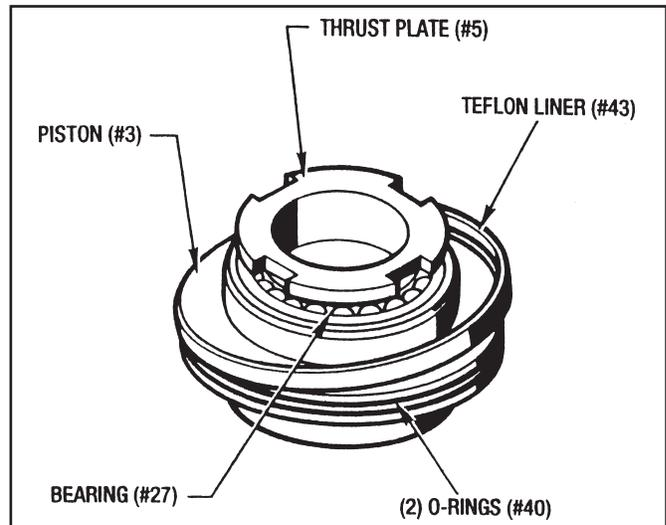

Figure 7.6 - Piston Sub-Assembly
3. Remove the Piston Subassembly which consists of: (a) Thrust Plate (#5), (b) Piston (#3), (c) Bearing (#27), (d) Teflon Liner (#43) and (e) (2) O-Rings (#40).
4. The Teflon Liner (#43) and the (2) O-Rings (#40) can now be removed for inspection and replacement. (See Figure 7.6)